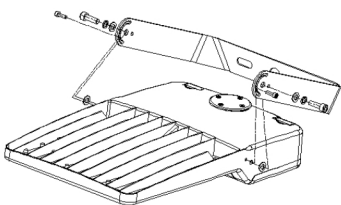

Fig. 1
1. Assemble bracket to Fixture as shown in Fig. 1.